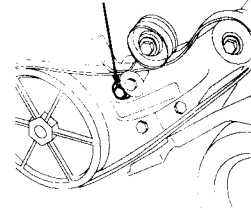

FIGURE 9A
1. Apply a few drops of light machine oil to the upper end of the clutch control cable. Wipe off any excess oil. This will ensure free movement of cable through outside casing. See figure 9A.